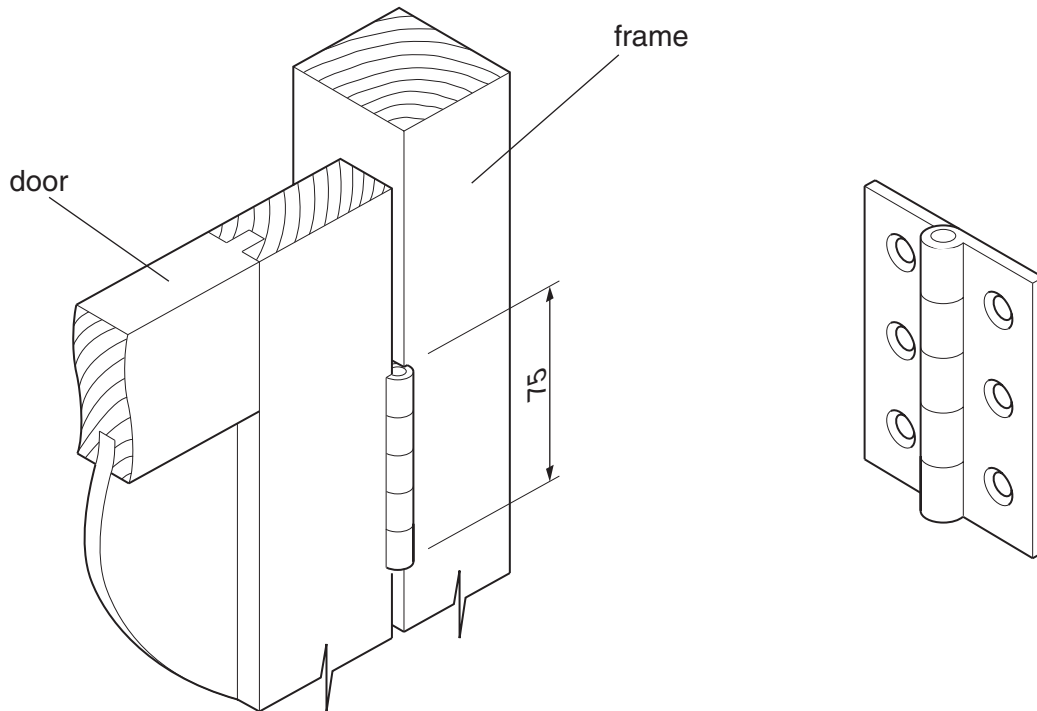

Fig. 12
- 13 Fig. 12 shows details of the top corner of a door and the upright of the frame, with a hinge in position.